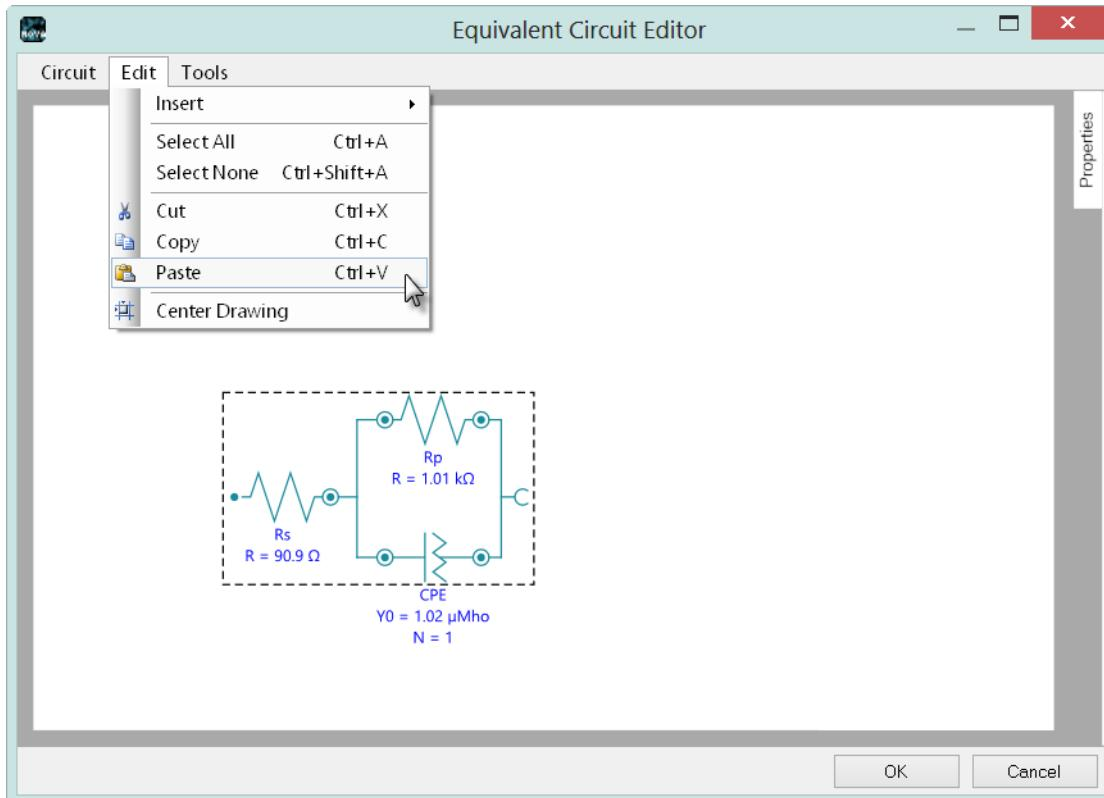

Figure 128 – The results from the Electrochemical circle fit can be copied and pasted directly in the Equivalent circuit editor
- **Copy from Electrochemical circle fit:** the results of the Electrochemical circle fit tool can be pasted directly into the Equivalent circuit window. In order to do this, right-click on the Electrochemical circle fit tool and select the *Copy as Equivalent Circuit* from the context menu, as shown in Figure 76. Copy these results in the Equivalent Circuit Editor window (see Figure 128).